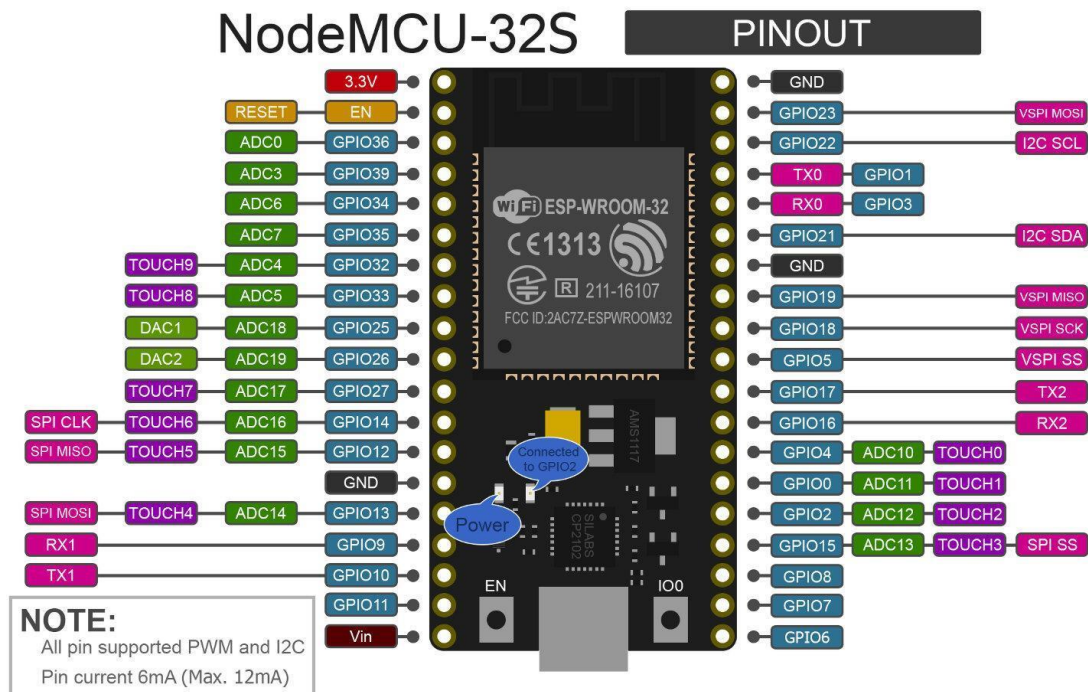

Figure 1 - Physical Pinout Diagram
- Figure 1 was taken from this site: